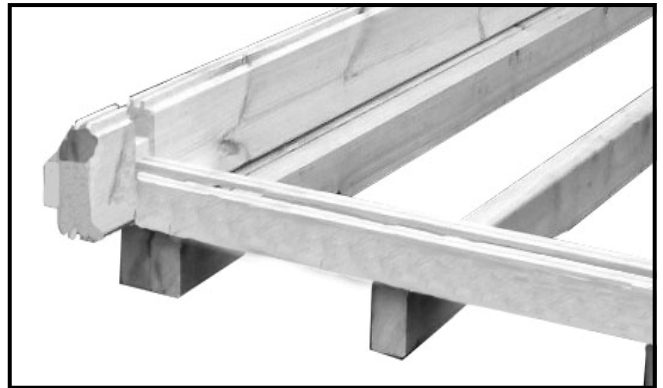

Fig D5
- Position the outer bearers so the outer log sits 5mm in from the outer face (fig D5) of the side and front logs.